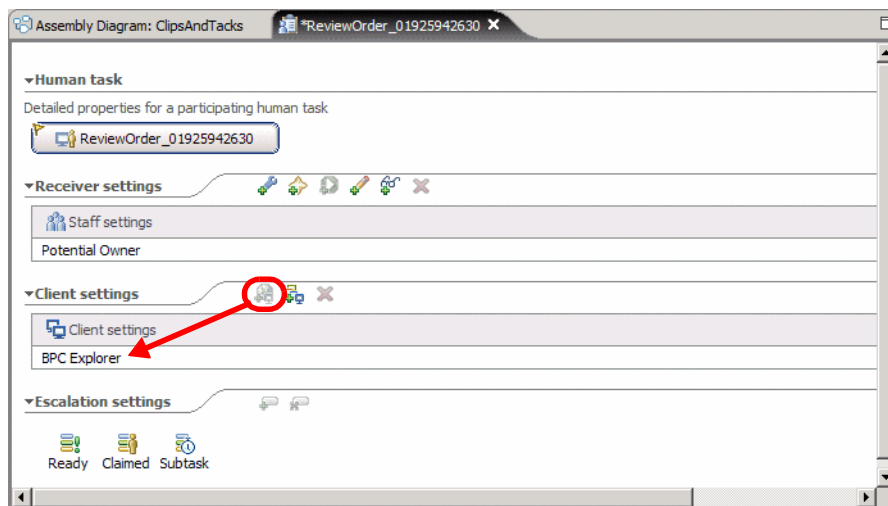

Figure 9-24 Human tasks configuration
- For Client settings click the *BPC Explorer* icon  to setup BPC Explorer for human tasks processing (Figure 9-24).